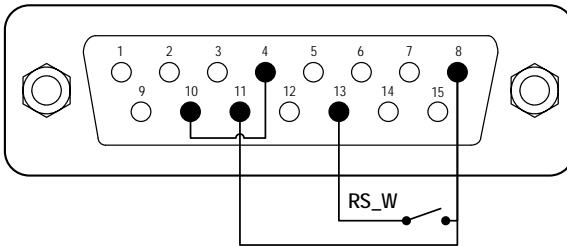
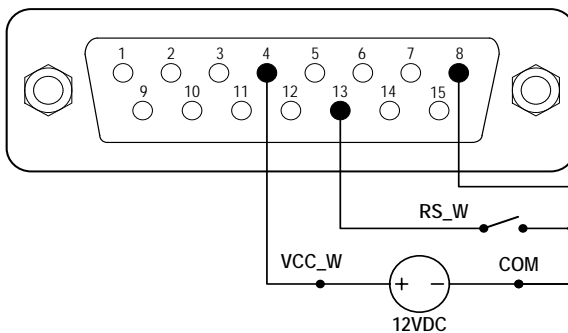

Figure 55. Control Start/Stop with Internal 12V Power Source
Figure 56. Control Start/Stop with External 12V Power Source
- 1) Power pump off. Wire the DB15 connector as shown on Figure 55 or Figure 56, and connect it to the DB15 port on the rear of the pump.